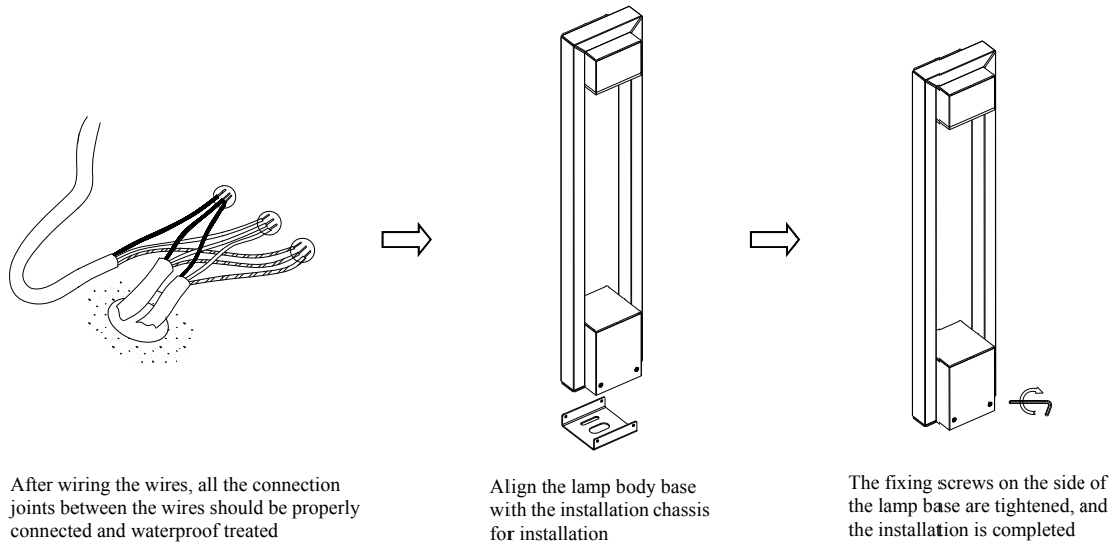

Figure 3
3. After fixing the installation chassis, connect the lamp wires to the mains, and ensure waterproof protection for the wiring. Install the lamp body base on the installation chassis, as shown in Figure 3. .